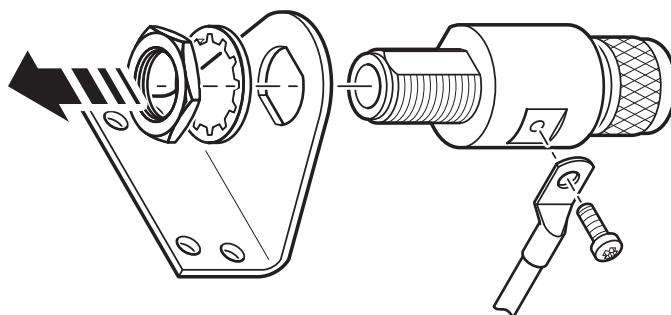

Figure 9.8: Assembly of the MBG S-PRO surge protector
2. Mount the supplied mounting bracket as shown in  Fig. 9.8, then fit the MBG S-PRO to the bracket.